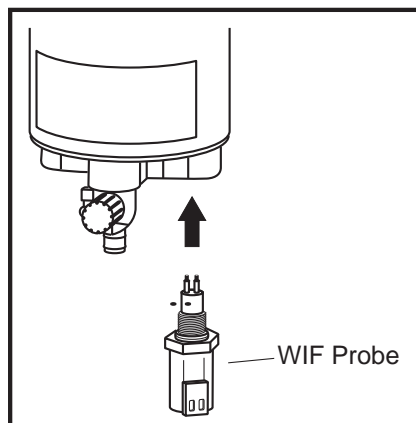

FIGURE 2
Step 1 - Install the WIF Probe (3911940 S) into the bottom of the Diesel Pro (see Figure 2).